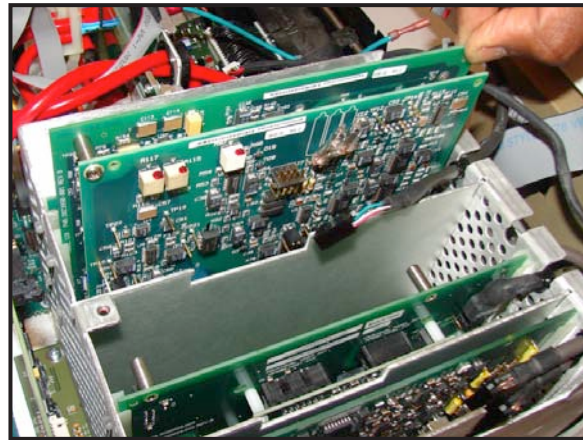

Figure 6-32
6. Pull out the FECG (and MECG) board(s) (See Figure 6-32). To remove the MECG board, remove the two screws that attach the MECG and FECG boards together.